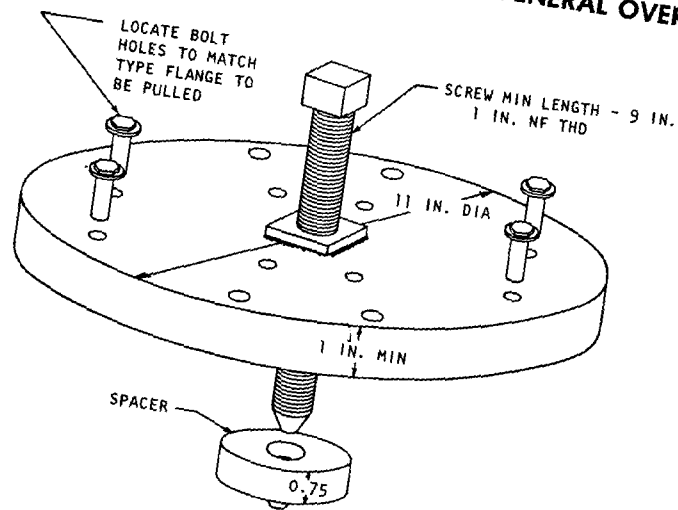

Fig. 4-4. Puller for interference-fit flanges
(1) Install a suitable heavy-duty puller to the face of the flange. A typical puller is illustrated in figure 4-4.